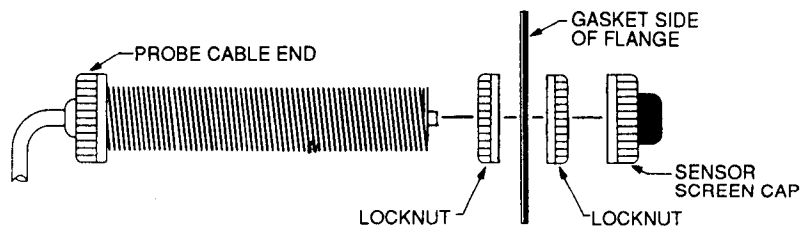
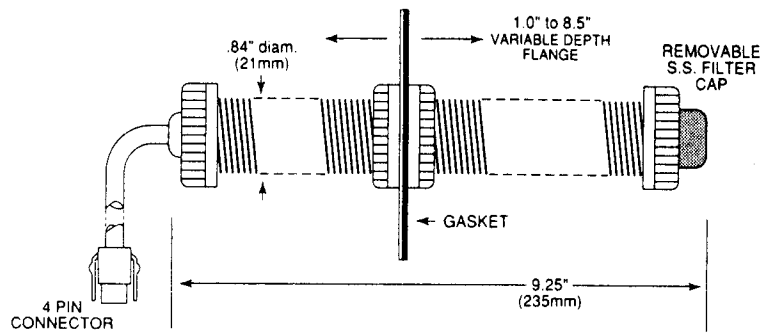

Figure 2-2. Probe and Flange Disassembled
Figure 2-3. Probe and Flange Assembly
1. Duct Mounting: See Figure 2-2. Duct insertion hole is 1.062" (27 mm) diameter minimum. The four mounting screws are evenly spaced on a 2.25" (57 mm) circle. Unscrew sensor screen cap from probe in order to assemble locknuts and gasketed flange as shown in Figure 2-2. Figure 2-3 shows a fully assembled probe.